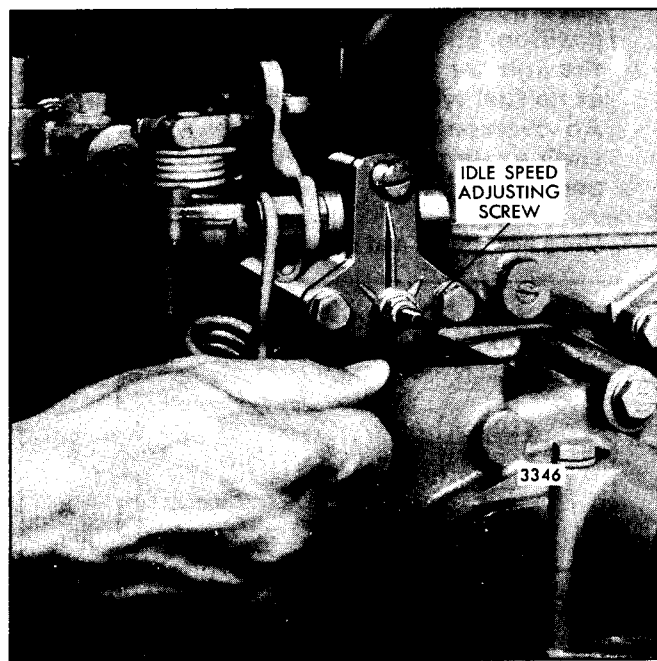

Fig. 6 – Adjusting Idle Speed
3. Loosen the locknut and turn the idle speed adjusting screw until the engine is operating at approximately 15 rpm below the recommended idle speed (Fig. 6). The recommended idle speed is 550 rpm, but may vary with special engine applications.